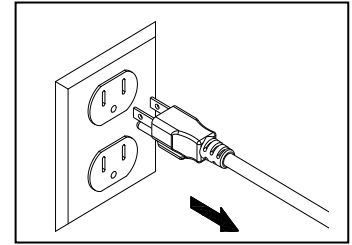

Fig. 4
1. Unplug the power cord, and then carefully remove the Floating Pump and Filter assembly from the pond. Fig. 4